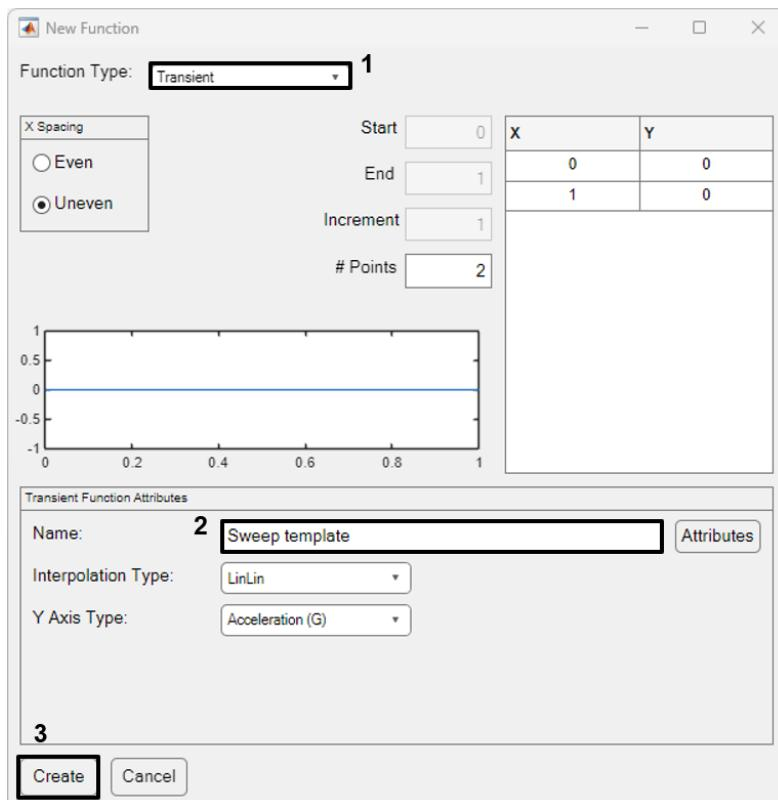
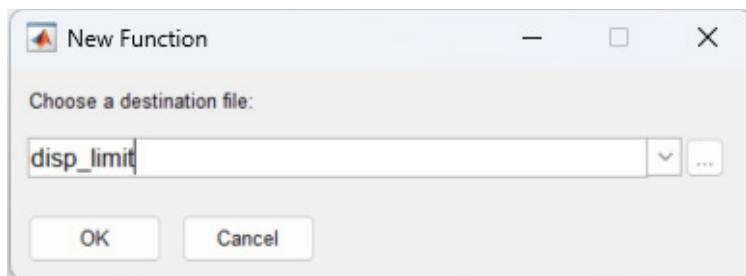
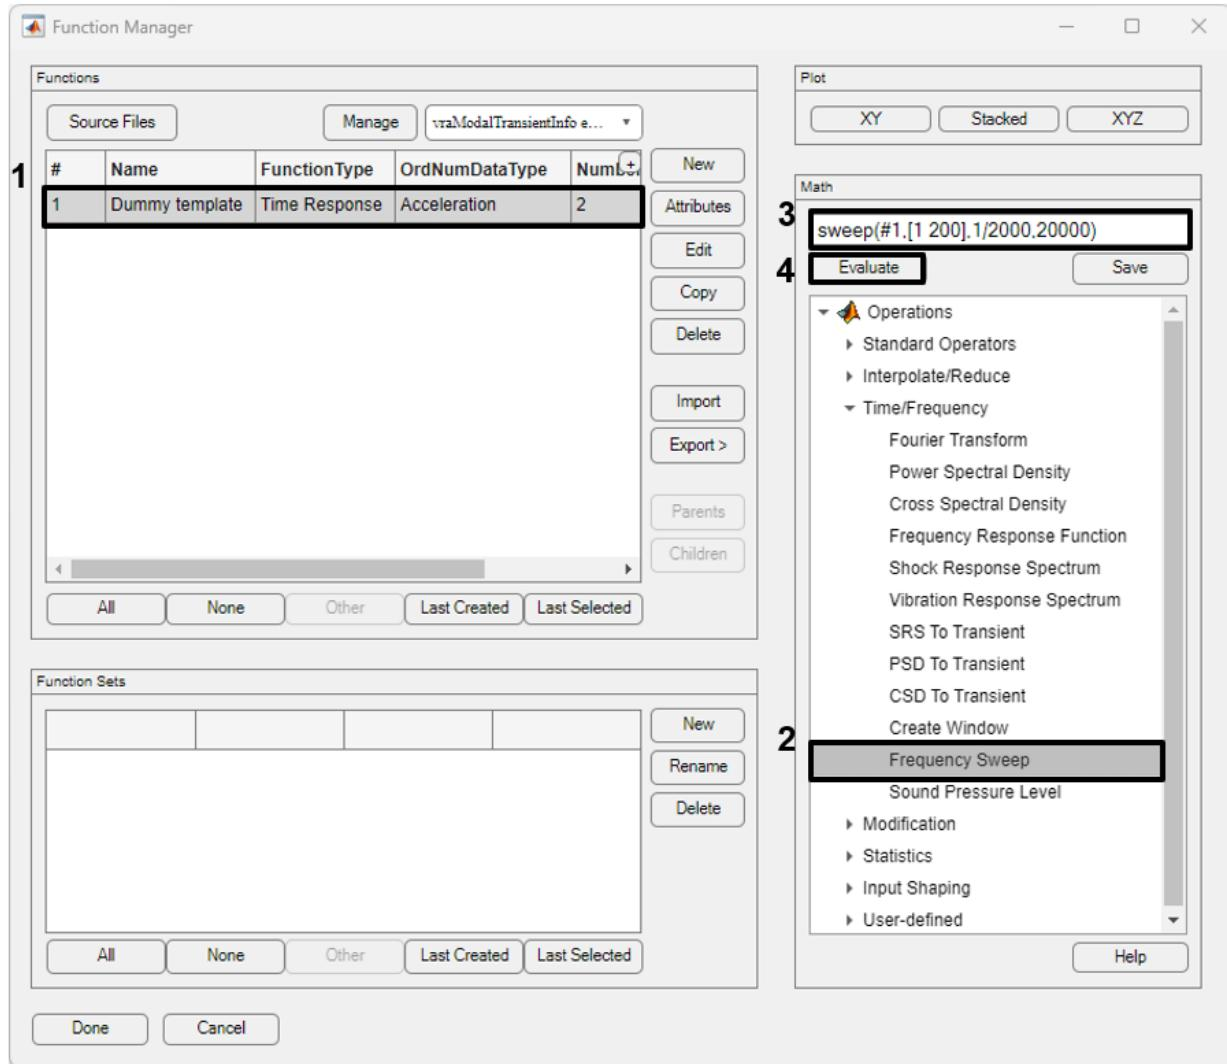

Figure 4-127. Create a dummy transient function to use for the sine-sweep creation.
Figure 4-128. Save the dummy function to the disp_limit file.
Figure 4-129. Create the frequency sweep function to be used for the base excitation.
first create a template function to use for the frequency sweep creation as described in the help for Frequency Sweep, which you can display by selecting Frequency Sweep from the *Time/Frequency* menu in the math operations and clicking the *Help* button (see Figure 4-129). Create the function by clicking on the **New** button in the Function Manager. Select the *Transient* function type and change the function name to “Sweep template” (Figure 4-127), and then save the template function to a new file “disp_limit.fcn” (Figure 4-128).
7. In the Function Manager, select the template function you just created as shown in Figure 4-129. Open the *Time/Frequency* category of the math operations and double-click on *Frequency Sweep* to place the frequency sweep operation into the math edit block. Edit the expression to set the frequency range to 1–200 Hz using a